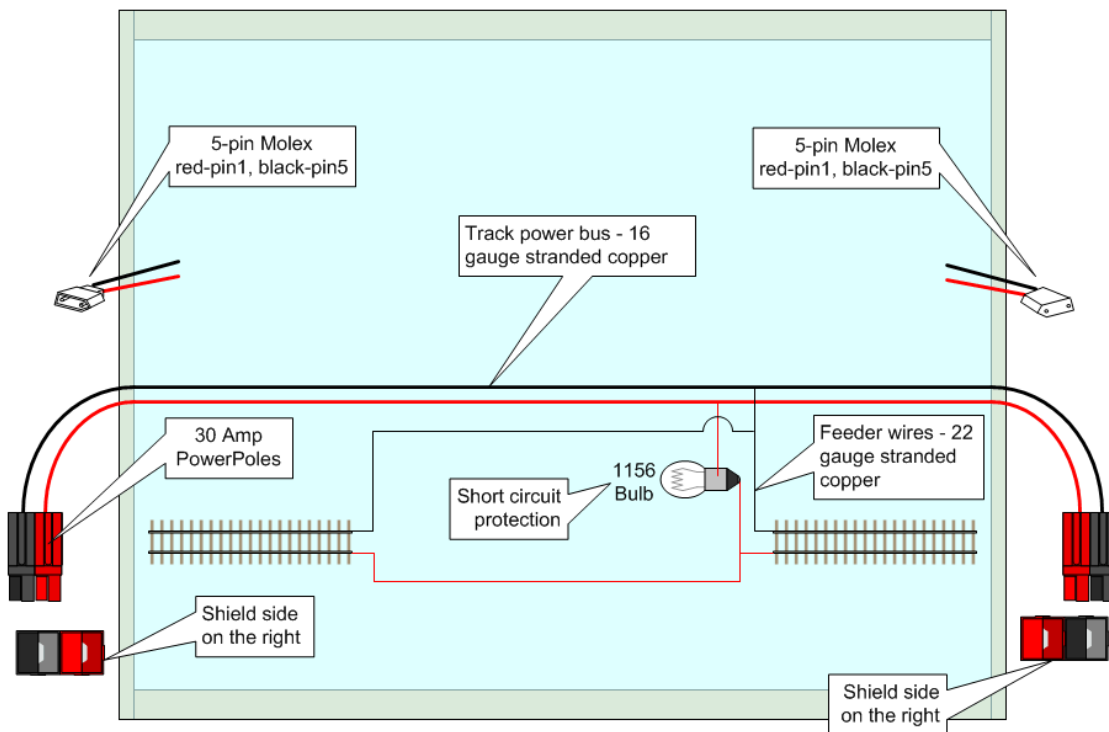

Figure 3
- PowerPoles are oriented as follows: The shields of the PowerPoles will be on the right when viewed end on (see figure 3). This will allow interoperability of modules by relaxing the need for a
- With the mainline track closest to you (relative to the interfaces, see figure 3), the right-hand Molex will have female pins and the left hand Molex will have male pins.
- Short circuit protection must be inserted between the power bus and the rail feed wires. A tail light bulb (type 1156) wired in series on one of the rail feeds will accomplish this (see Figure 3).